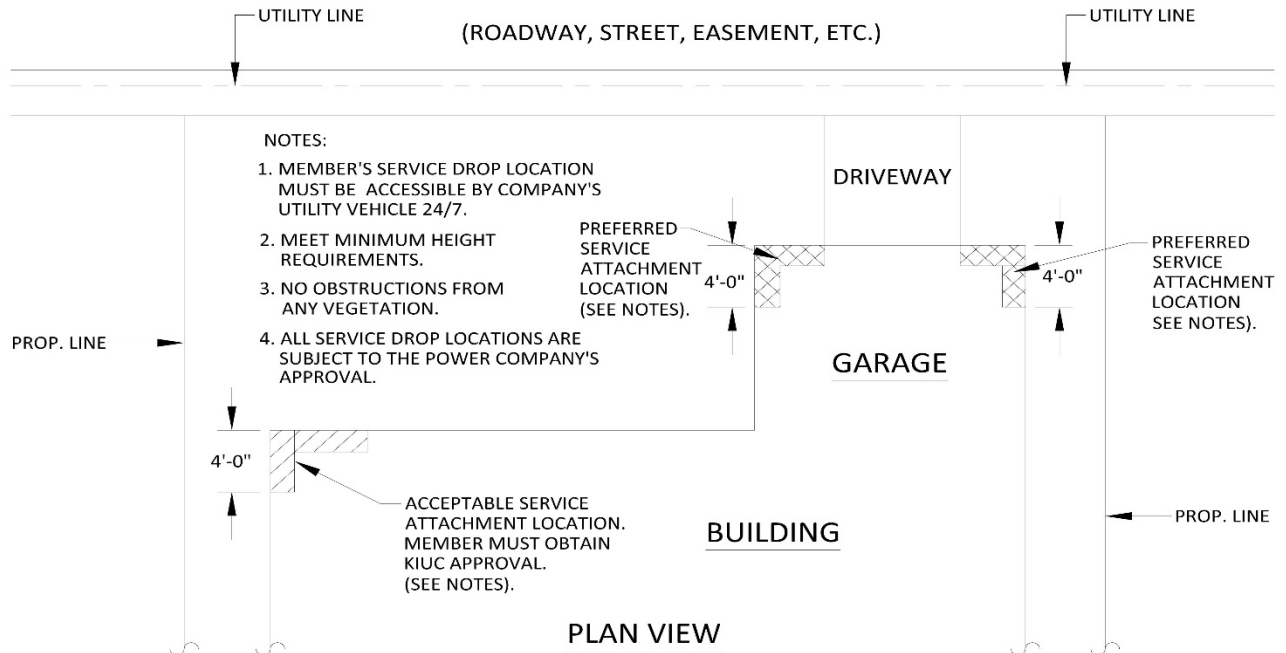

Figure 1: Approved locations for service attachments
- a. **Service Drops:** Upon receipt of an application from a bona fide applicant for service approved by the County Electrical Inspector, KIUC will at its expense furnish and install a single span of service conductor from its pole or other aerial support to the member's first permanent support or point of delivery provided that such support and connection is of a type approved by KIUC and is so located that the span will comply with good engineering practice and applicable laws, ordinances, rules and regulations. See Figure 1 for approved locations of service attachments.